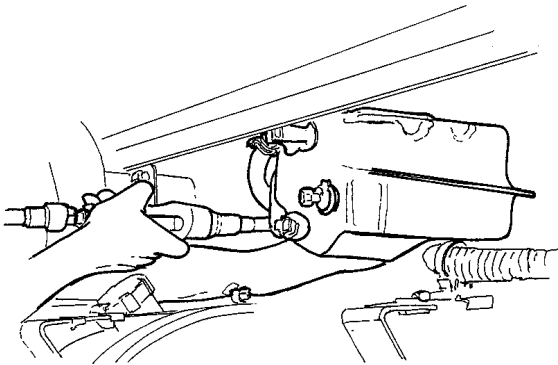

Figure 3 Remove Washer Reservoir Mounting Bolts
4. Remove four (4) washer reservoir mounting bolts and move the washer reservoir out from under the cab (Figure 3).
15. Install the washer reservoir with the four (4) mounting bolts from Step 4 (Figure 3). Tighten to 14 Lbf-ft (19 Nm).